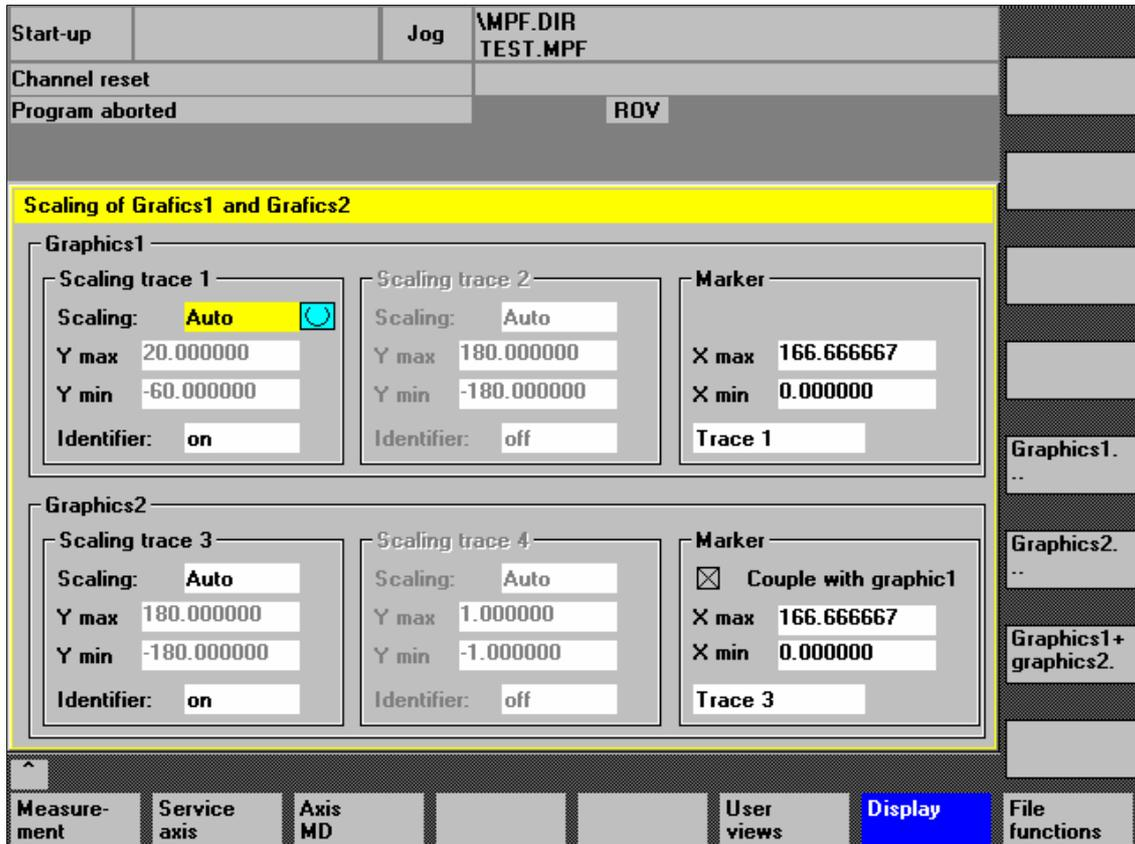

Fig. 14-7 Menu: Scaling of graphics
- Switching over the display from double to single graphics and vice versa (this function also exists in the scaling menu Fig. 14-7, Page 14-446)